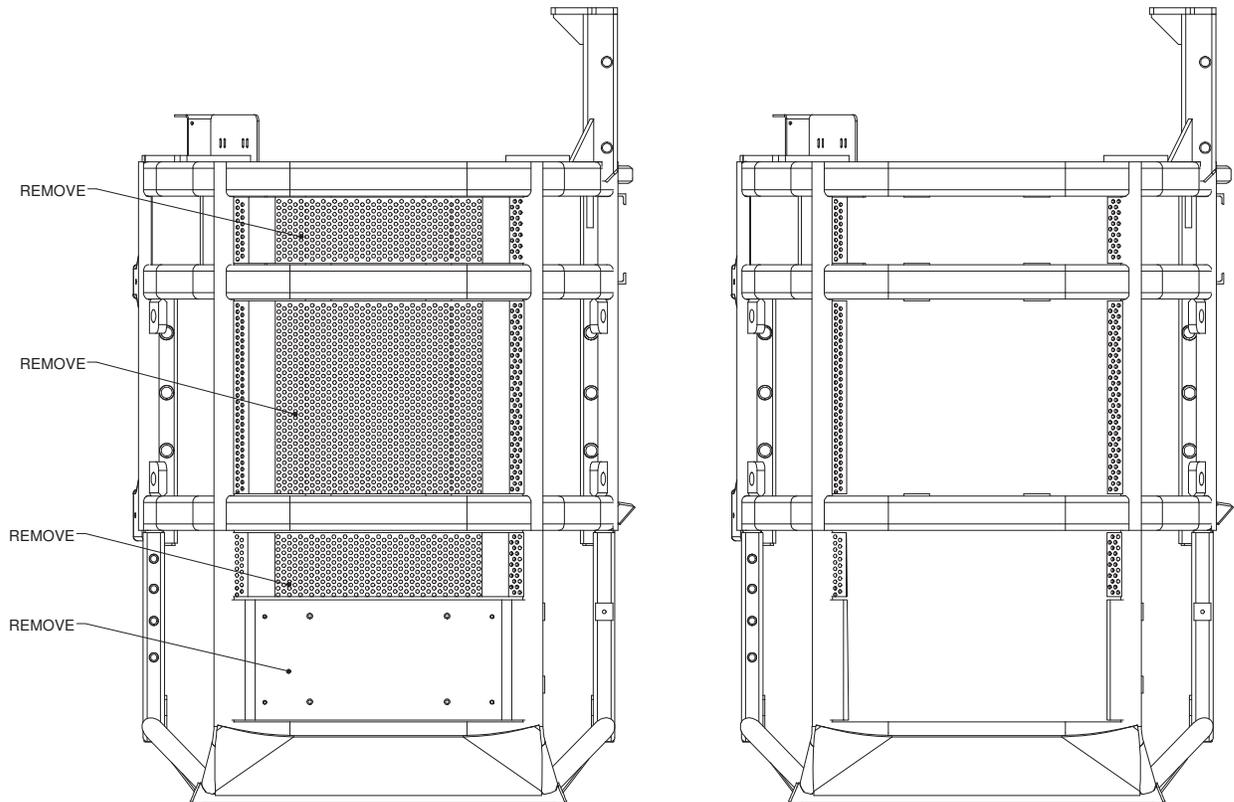

Figure 3: Remove existing plates
Should preventative methods fail, a guard modification kit is available. This kit eliminates the possible catch points by providing one continuous surface free from any recesses. To install the kit, the existing perforated plate will need to be cut out and removed in the locations described on Figure 3 on page 3, and a new replacement plate will have to be weld in. Contact RIGLINE 24/7™ Support to purchase the components under kit AY23335.
1. Cut out existing perforated plate and nameplate mount as shown on Figure 3.